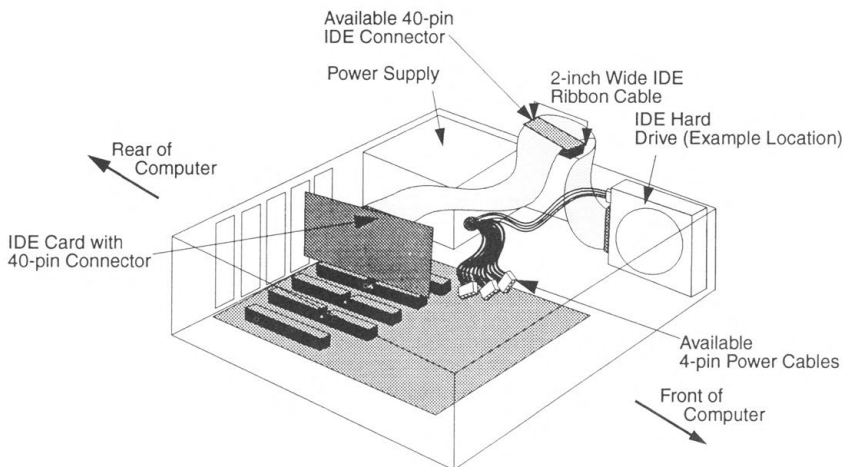
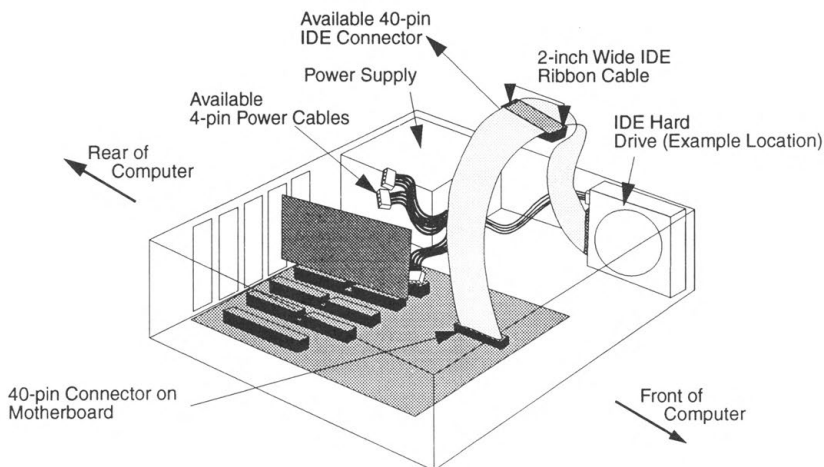

Figure 7. 40-pin IDE ribbon Cable Attached to an IDE Controller Card
Figure 8. 40-pin IDE Ribbon Cable Attached to the Computer's Motherboard
Internal configurations vary from one computer to another, so your hard drive may not be exactly where the hard drive is shown in Figures 7 and 8.
- A ribbon cable that attaches to either the motherboard or an IDE (or EIDE) controller in an expansion slot (See Figure 7 and Figure 8).
NOTE: Figure 7 and Figure 8 show typical internal desktop PC configurations. Your hard drive may be located in one of many places inside your PC.